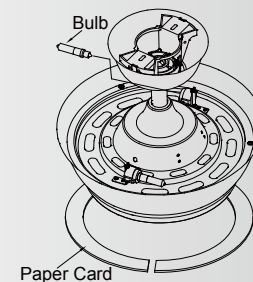

Fig. 18
Step 4. Install two (2) lamps 50W (included), one in each socket as shown. (Fig. 18) Remove the paper card from the motor body.